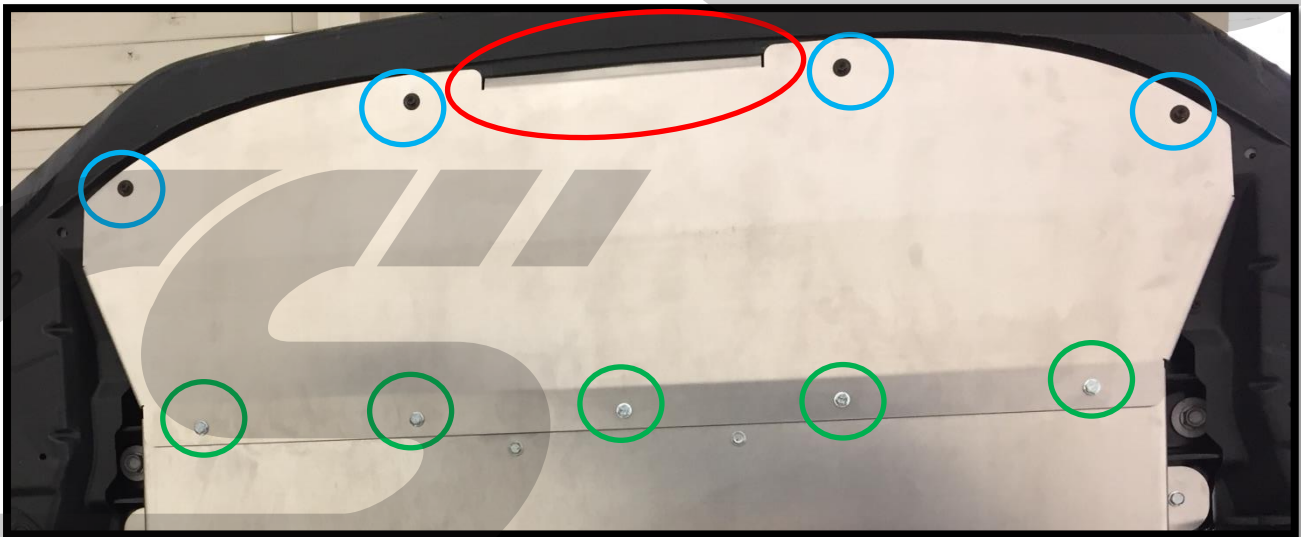

Figure 3a
- a) **Lift the Front Section of the CorkSport Skid Plate into place.** Ensure the front tab sits on top of the bottom of the bumper. Proper fitment shown in **Figure 3a** with **red circle**.
- b) **Secure the front section by reusing the four (4) 8mm OE bolts that were removed earlier.** Locations shown with **blue circles** in **Figure 3a**.
- c) **Attach the two pieces of the CorkSport Skid Plate together** using five (5) M6x16 button head screws in the previously installed U-nuts. Locations shown with **green circles** in **Figure 3a**. **Toque to 10-14 ft-lbs.**